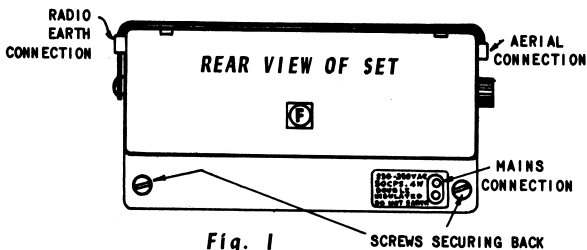

Fig. 1
1. Remove 2 screws securing cabinet back. - FIG. 1.